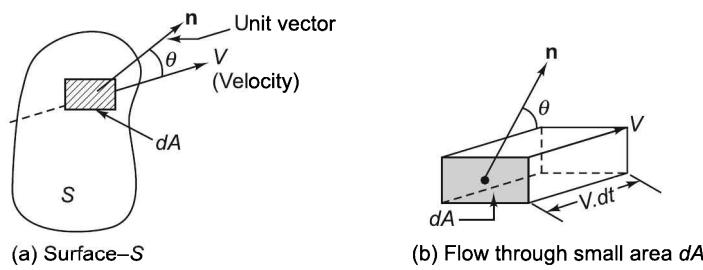

FIGURE 18.18 Volume and mass flow rate.
- (a) **Volume and mass flow rate:** An arbitrary surface(s) is as shown in Figure 18.18. Let \mathbf{n} be defined as the unit vector normal to elemental area dA . The amount of fluid swept through dA in time dt is